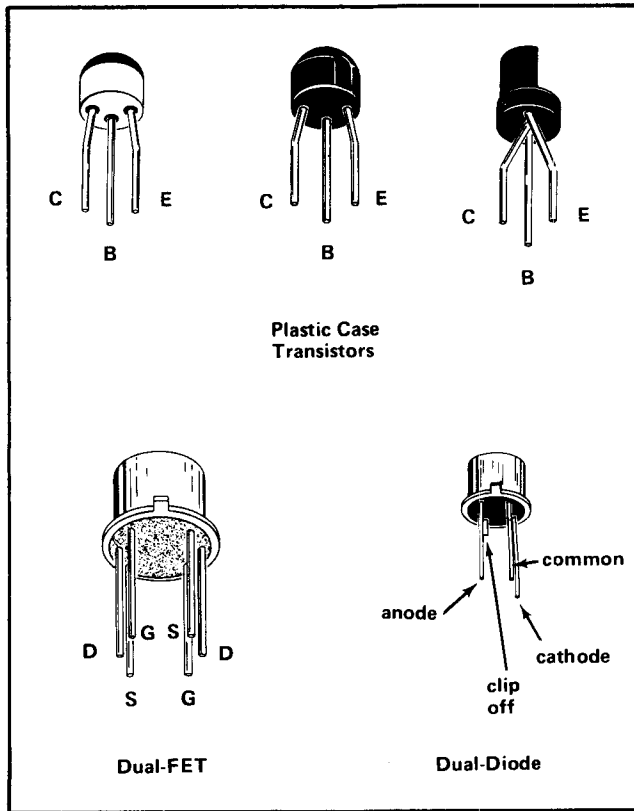

Fig. 4-1. Electrode configuration for semiconductors in the 7A15A/7A15AN.
Semiconductor Lead Configuration. Fig. 4-1 shows the lead configurations of the semiconductor devices used in this instrument.
A. **TRANSISTORS.** The best check of transistor operation is actual performance under operating conditions. If a transistor is suspected of being defective, it can best be checked by substituting a component known to be good; however, be sure that circuit conditions are not such that a replacement might also be damaged. If substitute transistors are not available, use a dynamic tester (such as Tektronix Type 576). Static-type testers may be used, but since they do not check operation under simulated operating conditions, some defects may go unnoticed. Fig. 4-1 shows base pin and socket arrangements of semiconductor devices. Be sure the power is off before attempting to remove or replace any transistor.
Replacement semiconductors should be of the original type or a direct replacement. Fig. 4-1 shows the lead configurations of the semiconductors used in this instrument. If the replacement semiconductor is not of the original type, check the manufacturer's basing diagram for proper basing.